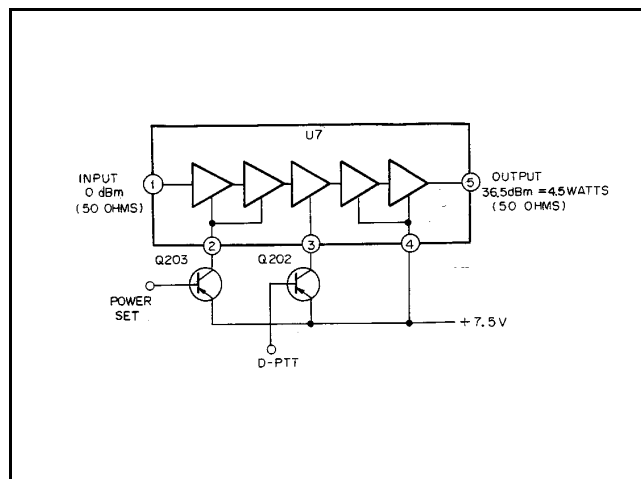

Figure 6 - Power Amplifier (PA)
The M-RK transmit circuit, as shown in Figures 6 and 7, consists of the following integrated circuit, modules.
Power Amplifier (PA) U7 is a five-stage, wideband amplifier module with an input and an output impedance of 50 ohms (Figure 6). The first stage of the PA module has the dc power supplied by power set transistor Q203. The RF power output from multiplier is connected through a HPF to pin 1 of the PA module where it is applied to the input of the RF power amplifier stages. The RF power amplifier stages amplify the input from the Tx-Amp module to a typical power output level of 4.5 watts at pin 5. The output at pin 5 is connected through the HPF and LPF/DC/SW module. A minimum power level of three watts is on the output of the LPF/DC/SW module.